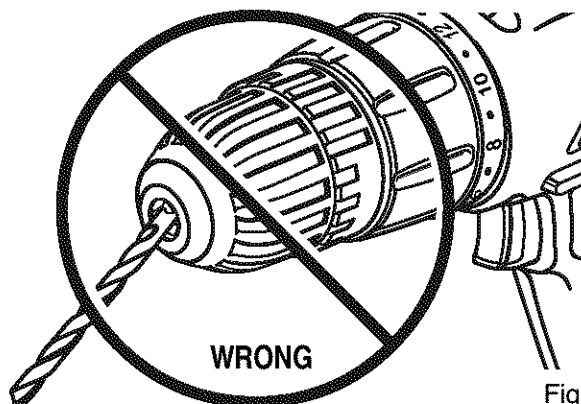

Fig. 7
- ⚠ **WARNING:** Make sure to insert drill bit straight into chuck jaws. Do not insert drill bit into chuck jaws at an angle then tighten, as shown in Figure 7. This could cause drill bit to be thrown from drill, resulting in possible serious personal injury or damage to the chuck.